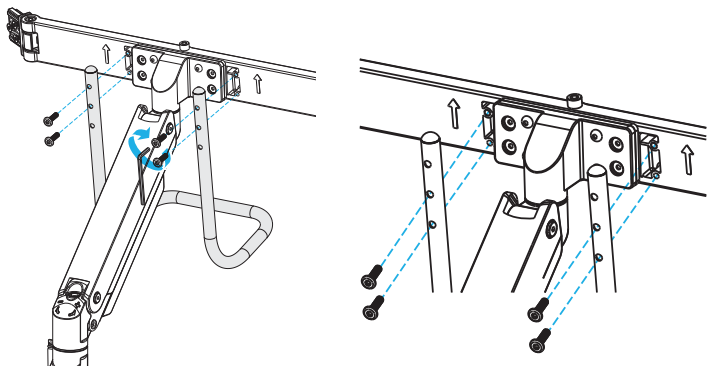

Figure 15
2. Insert the **Flat Head Screws** (x 4) through the **Grab Handle Screw Holes** and into the **Crossbar, Centre**. The **Grab Handle** can be mounted at two different heights depending on which **Screw Holes** are used to attach it to the **Crossbar, Centre**. (Figure 15)
3. Tighten the **Flat Head Screws** using the **4mm Hex Key**. (Figure 15)